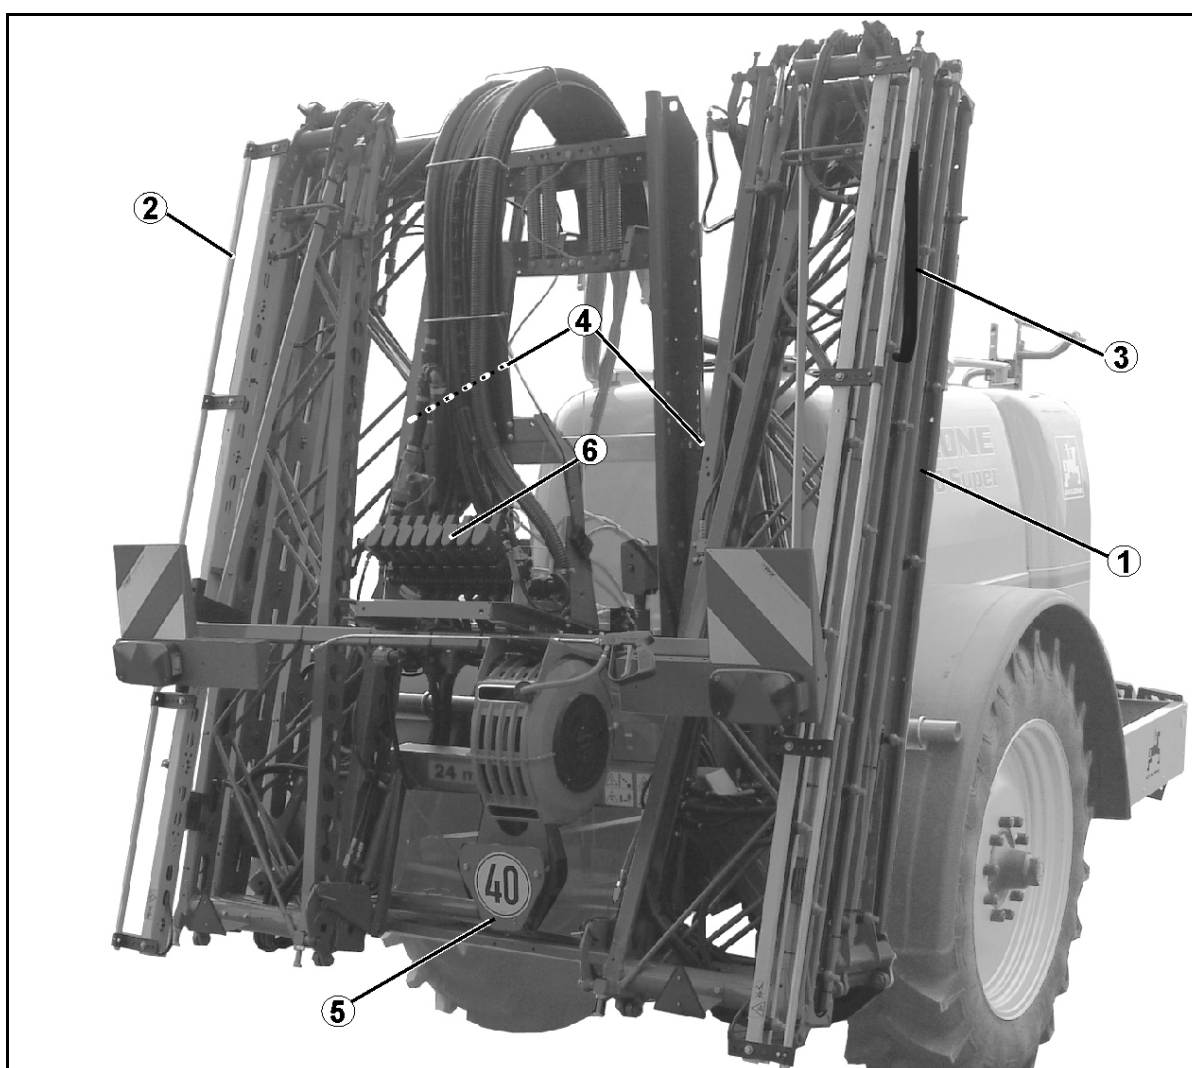

Fig. 79
- the catch hooks (Fig. 79/1) release the boom support (Fig. 79/2).
- the catch hooks (Fig. 79/1) latch onto the boom support (Fig. 79/2).